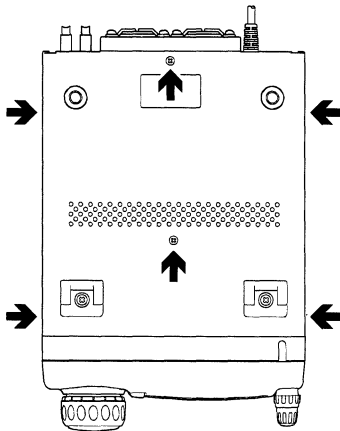

Figure 6
2. Referring to Figure 6, remove the six screws affixing the bottom case of the transceiver.